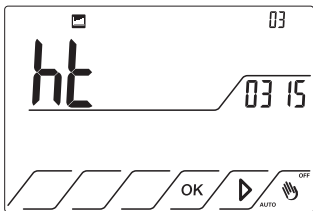

Fig.51
13.5 Press  to move on page 3. Fig.51